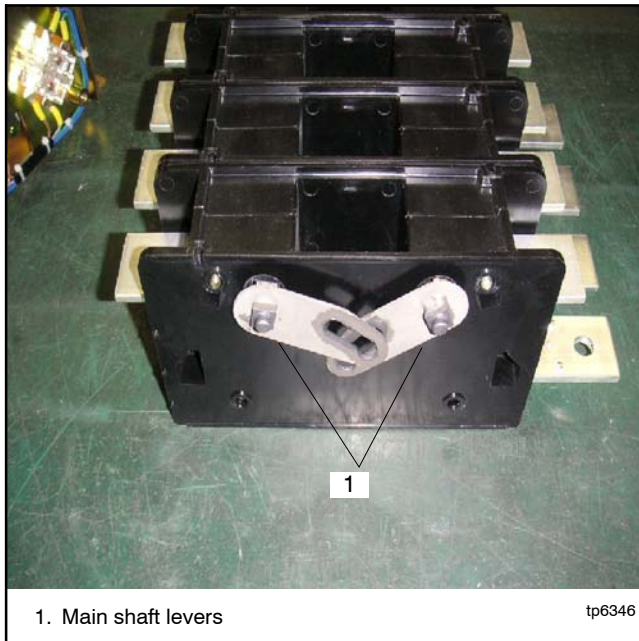

Figure 7-21 Current-Carrying Unit
1. Pull out the main shaft levers and install the new current-carrying unit. See Figure 7-21.